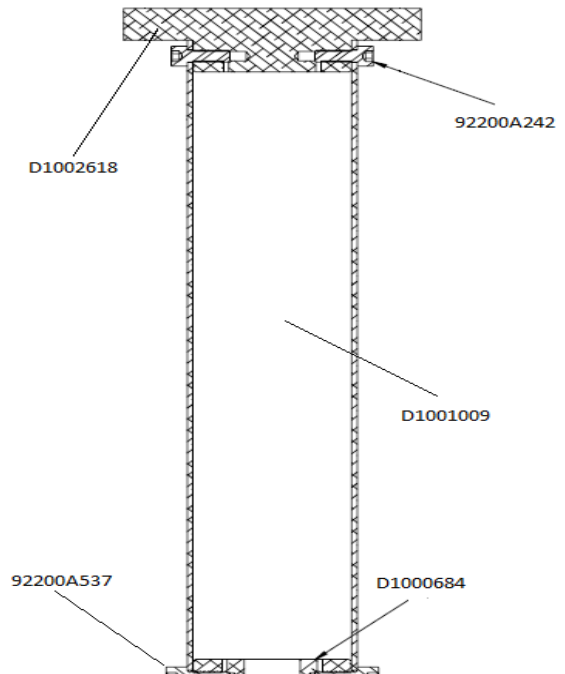

Figure 17: Lo Tube Assembly
1. Insert D1000684 - SLC TUBE LOWER MOUNTING PLATE into D1001009 - ARM CAVITY BAFFLE LO TUBE, see Figure 17. Align with *larger* fastener holes.
2. Insert D1002618 - SLC TUBE LOWER CONNECTOR PLATE into D1001009 - ARM CAVITY BAFFLE LO TUBE, see Figure 17. Align with *smaller* fastener holes.